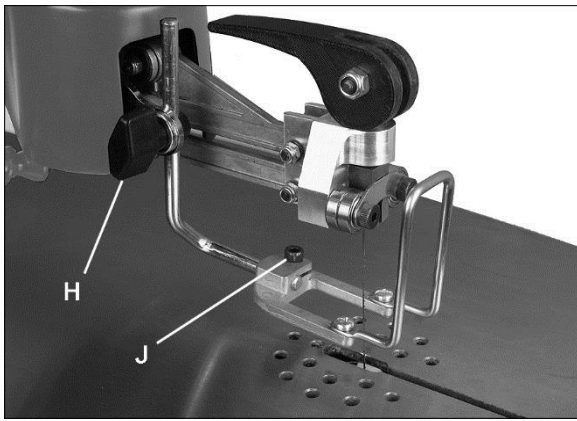

Fig 18
For vertical adjustment, loosen knob (H, Fig 18). For forward/back and angling adjustment, loosen socket head screw (J).